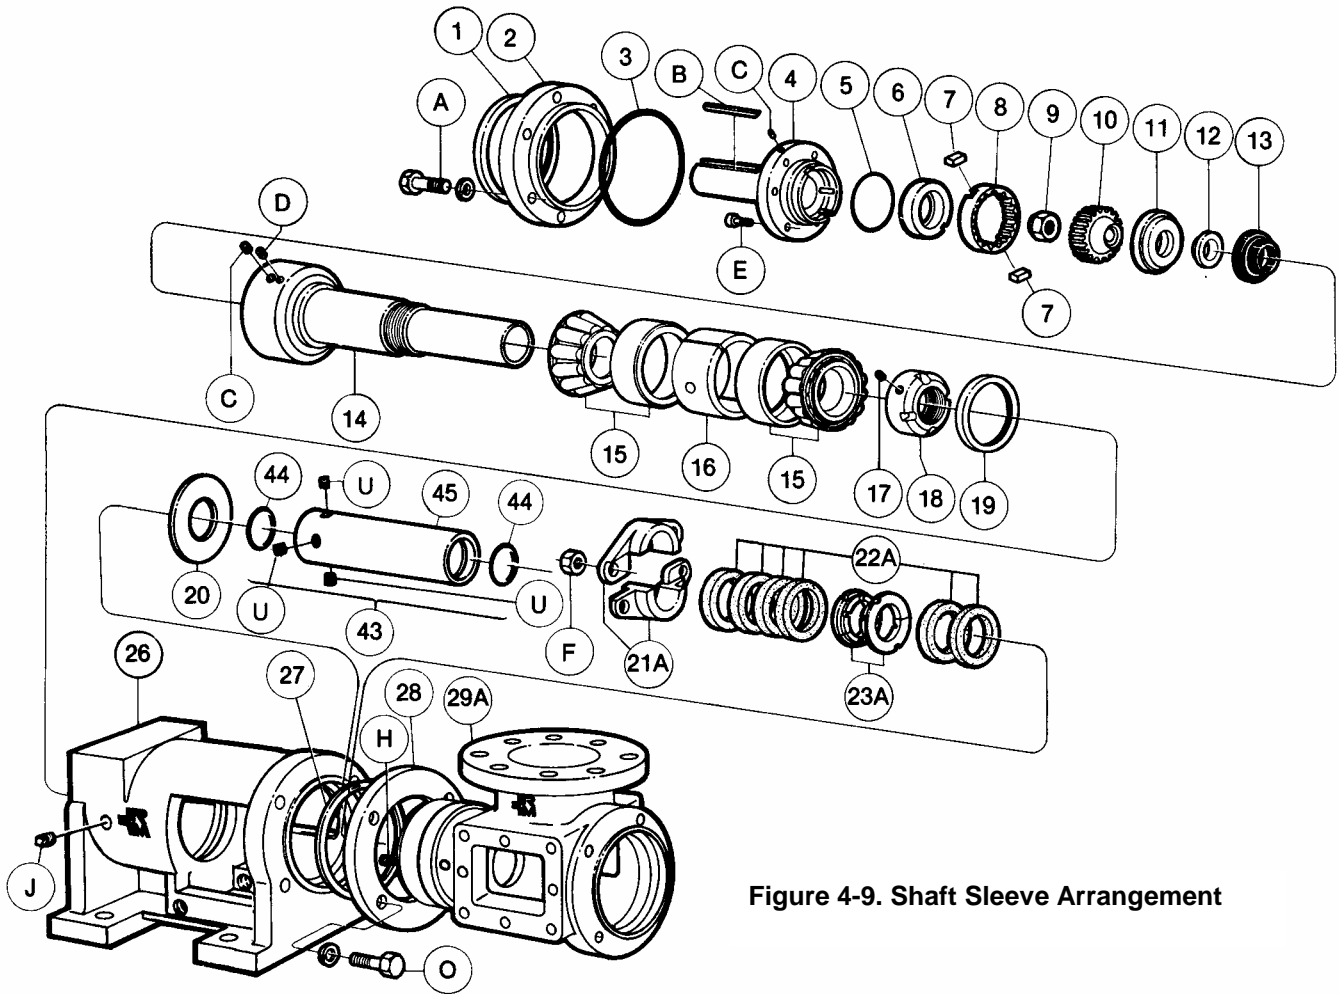
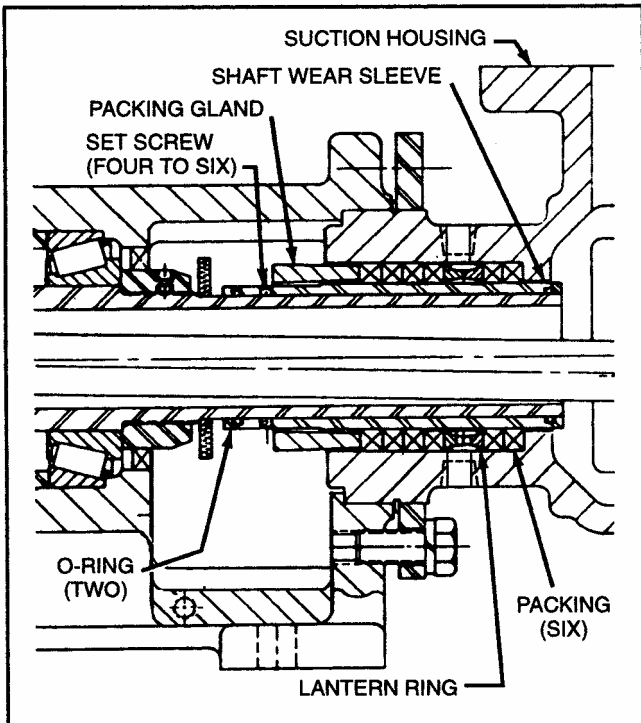

Figure 4-9. Shaft Sleeve Arrangement
Figure 4-10. Pump with Shaft Wear Sleeve
Some pumps have a sleeve installed on the drive shaft to receive any possible wear caused by the packing. See sleeve kit (fig. 4-9), and the cross section illustration (fig. 4-10).
4-47. Disassembly (see fig. 4-9). After separation of bearing housing (26) from suction housing (29A), and removal of packing gland and packings, remove sleeve as follows:
1. Loosen four to six set screws (U) in sleeve (45), and pull sleeve off shaft (14).
2. Remove two O-rings (44) from interior of sleeve.